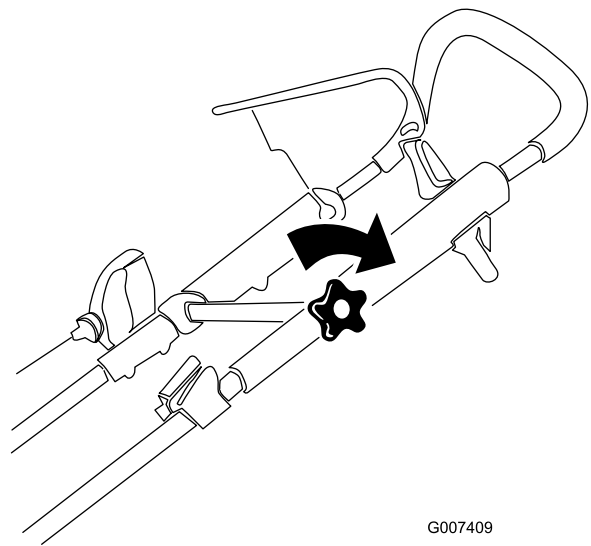

Figure 5
4. Move the upper handle to the desired position and tighten the upper handle knob firmly (Figure 5).